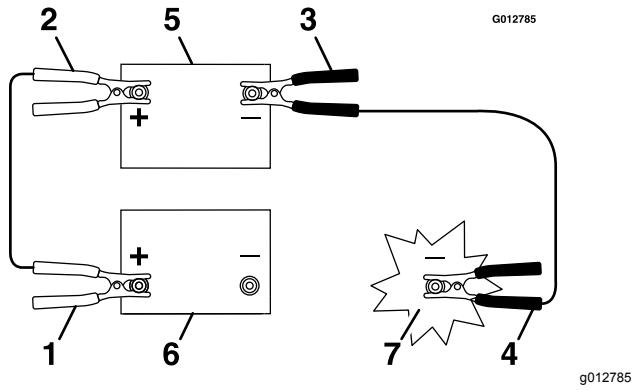

Figure 49
- Connect the positive (+) cable to the positive (+) terminal of the discharged battery that is wired to the starter or solenoid as shown in Figure 49.